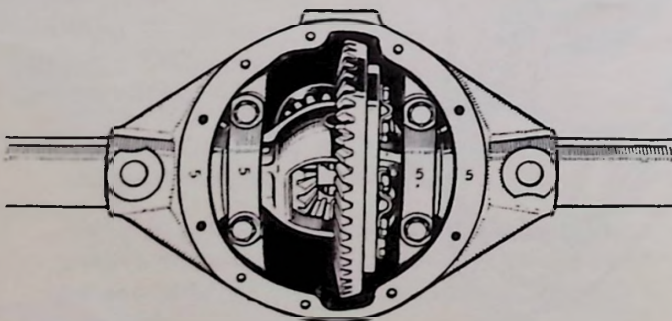

Fig. 26.
- (9) When refitting the bearing caps, be sure that the positions of the numerals marked on the gear carrier housing face and the caps correspond, as indicated in *Fig. 26*. Tighten the caps lightly, remove the stretching fixture, then finally tighten the bolts securing the bearing caps. Then continue with operation (10).
- (8a) Install the differential bearing caps, taking care to ensure that the positions of the numerals marked on the gear carrier housing face and the caps correspond, as indicated in *Fig. 26*.